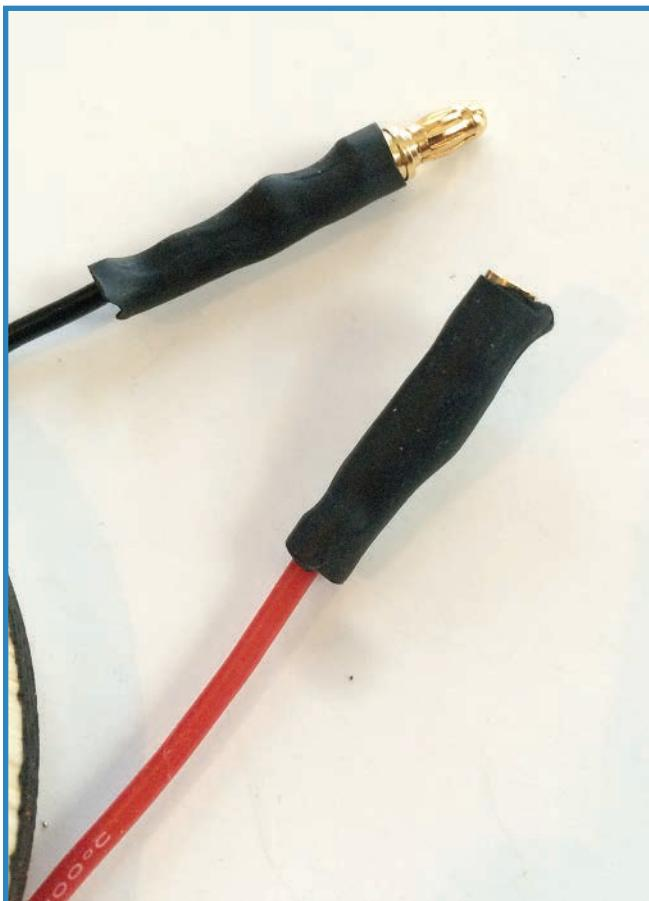

FIGURE 10.10 Put some tubing on the end and shrink it down!
6. **Add the heat shrink.** Put about an inch of heat shrink on the end of each wire, making sure the contact portion of the male connector is left free. Use your soldering iron barrel to warm the heat shrink so it coats the base of the connector as well as the end of the wire. Figure 10.10 shows successful male and female connectors.